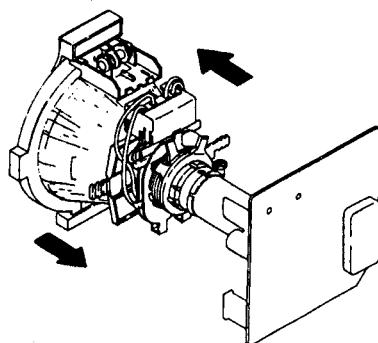

Fig. 3-1
3. Move the deflection yoke backward, and adjust with the purity control so that red is in the center and blue and green are at the sides, evenly. (Fig. 3-1 – 3-3)
4. Move the deflection yoke forward, and adjust so that the entire screen becomes red. (Fig. 3-1)